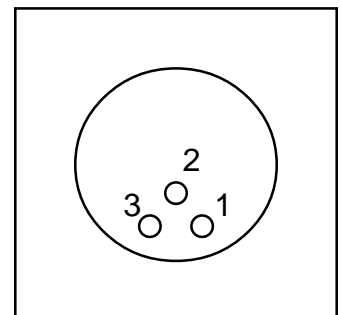

Figure 9:
7. Using an Ohmmeter, measure resistance across Node 1 and Node 3 (refer to Figure 9). This should measure approximately 5000 ohms.